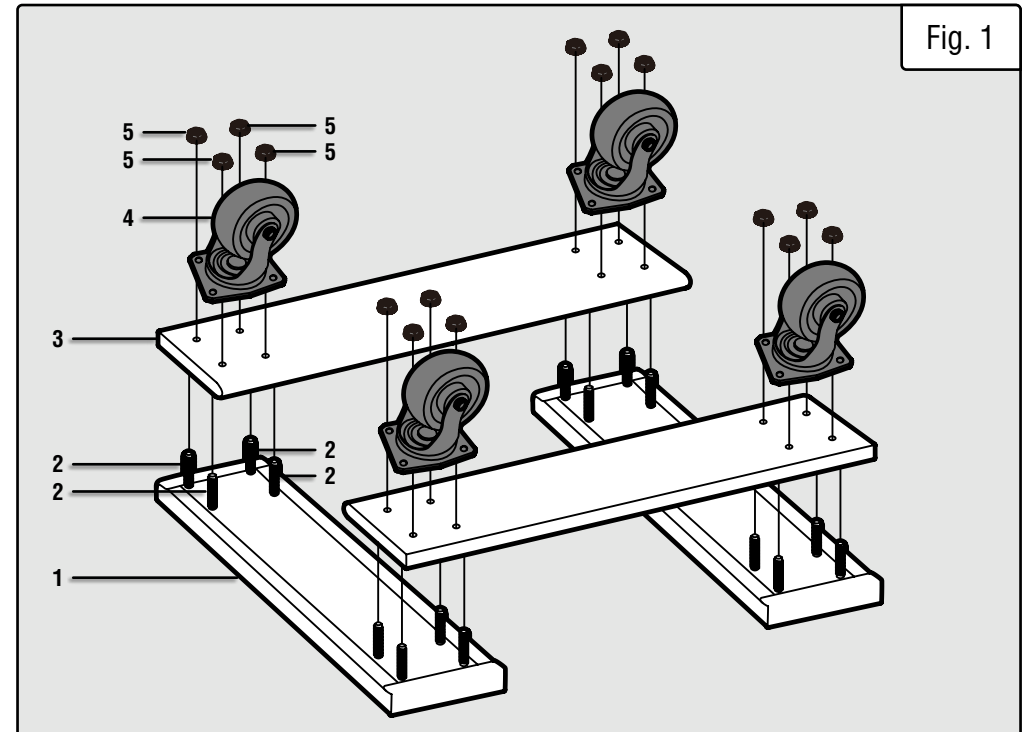

Fig. 1
1. Place two short wood sides (Fig. 1 - 1) on a sturdy, flat surface with the bolts (Fig. 1 - 2) facing up.
2. Fit the holes in the long wood sides (Fig. 1 - 3) over the bolts on the short wood sides as shown below.
3. Fit four casters (Fig. 1 - 4) over the bolts as shown in the figure below.
4. Secure the wood sides and casters with sixteen hex nuts (Fig. 1 - 5). Make sure that all nuts are tightly secure before beginning operation.